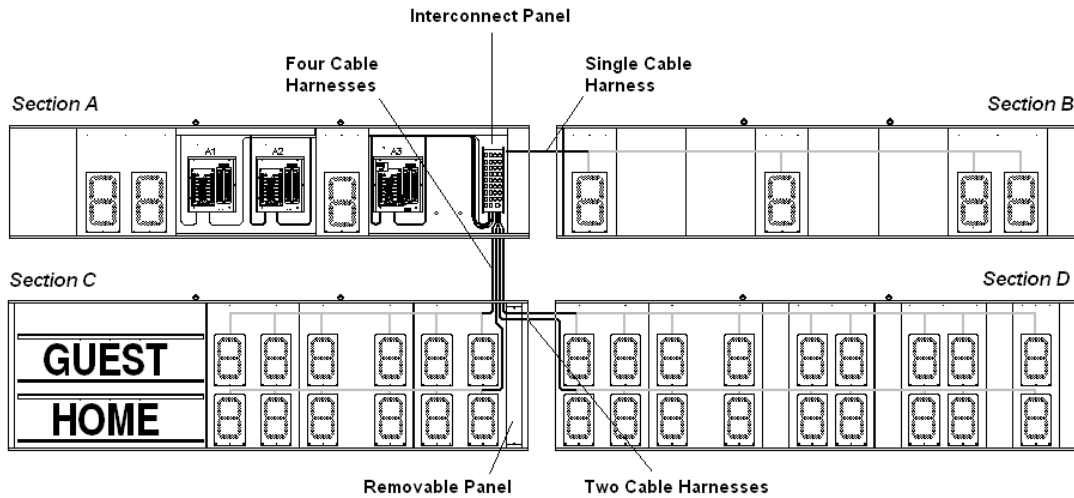

Figure 10: Scoreboard Interconnect Harnessing
Because the four sections of these scoreboards are shipped separately and joined onsite, care must be taken to properly route the interconnect cables. Refer to **Figures 10** and **11** and follow this general procedure to connect the digit harnesses.
3. Harnesses should be protruding through a pair of $2\frac{1}{2}$ " holes on the left end of *Section D*. Refer to **Figures 10** and **11**. Run these cables into the mating holes on the right side of *Section C*, and then continue to route the cabling up and through the two end holes in the top of *Section C*. There are four holes on the upper right side of the *Section C* cabinet. The first two holes are occupied by the digit interconnect cabling from *Section C*, and